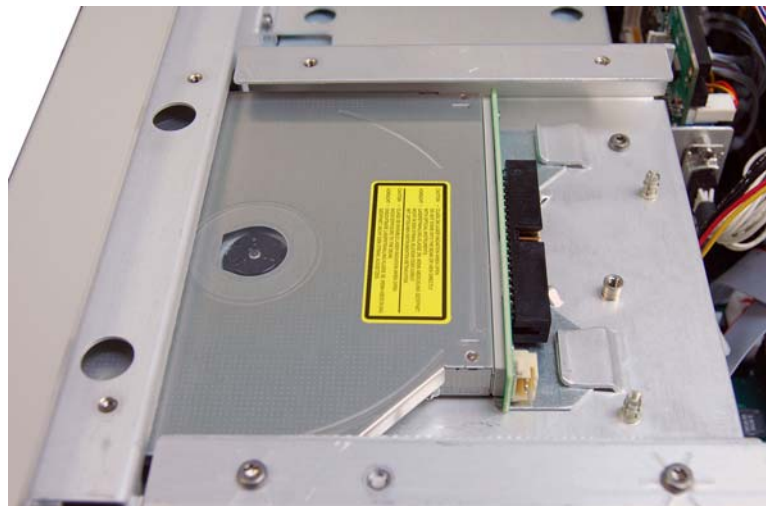

Figure 15: Installing the DVD drive
12. Slide the DVD-R/W drive through the front panel and slide back until the drive slides under the securing clips. See Figure 15.